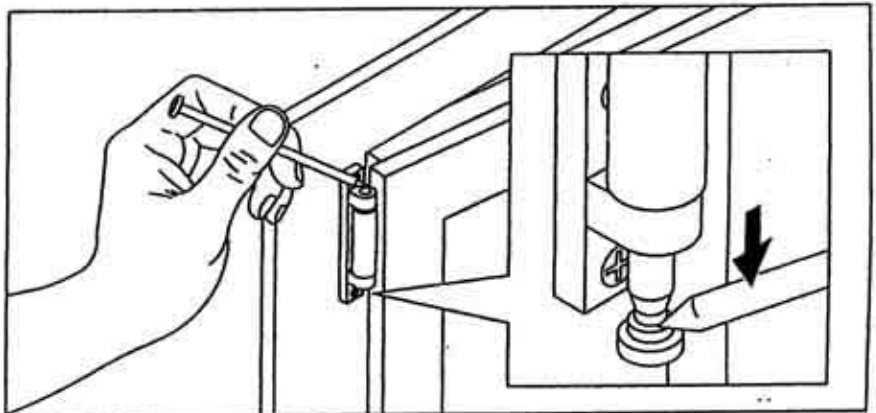

Figure 2-9. How to pull down the hinge pin
- 3.3 One installer supports the weight of the open sash. The other pulls the hinge pin down: use the point of a nail and push down the top of the hinge pin. Then, use the point of the nail and pull the bottom of the pin down until the head of the hinge pin "clicks" into place in the lowest flange of the hinge. Do not continue to pull the hinge pin lower, or it will fall out. See Fig. 2-9.